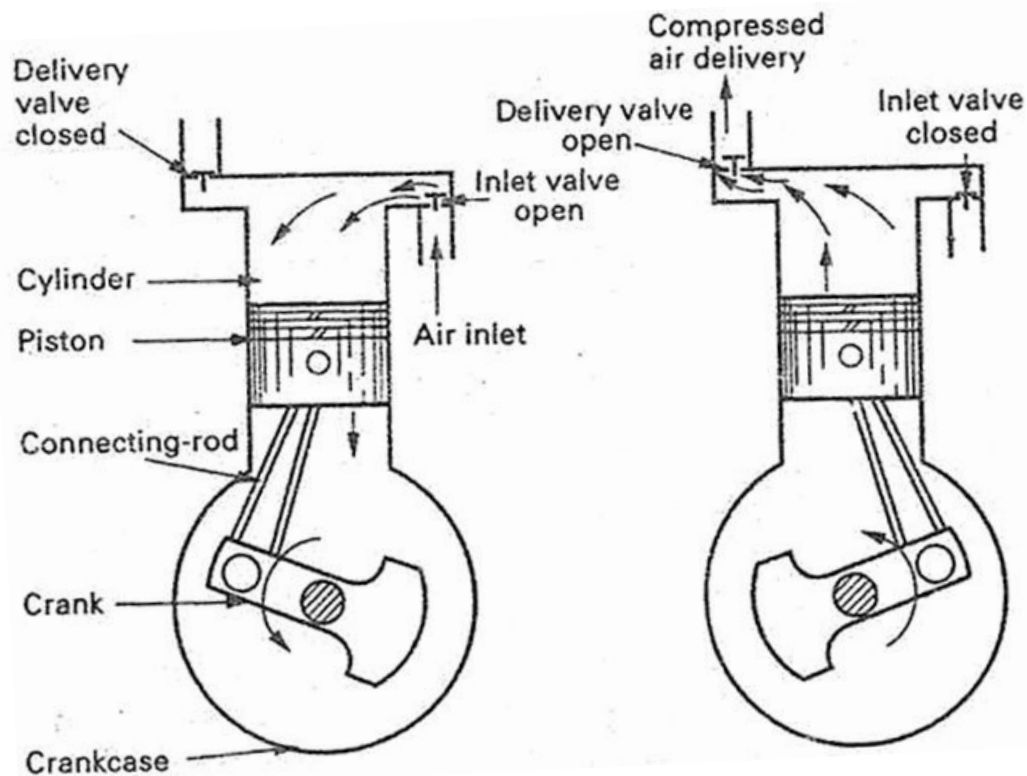

FIG 8.
- ✓ The piston compressor is a commonly used type (Fig 8). Its normal pressure range is from 100 kPa up to 1500 kPa.